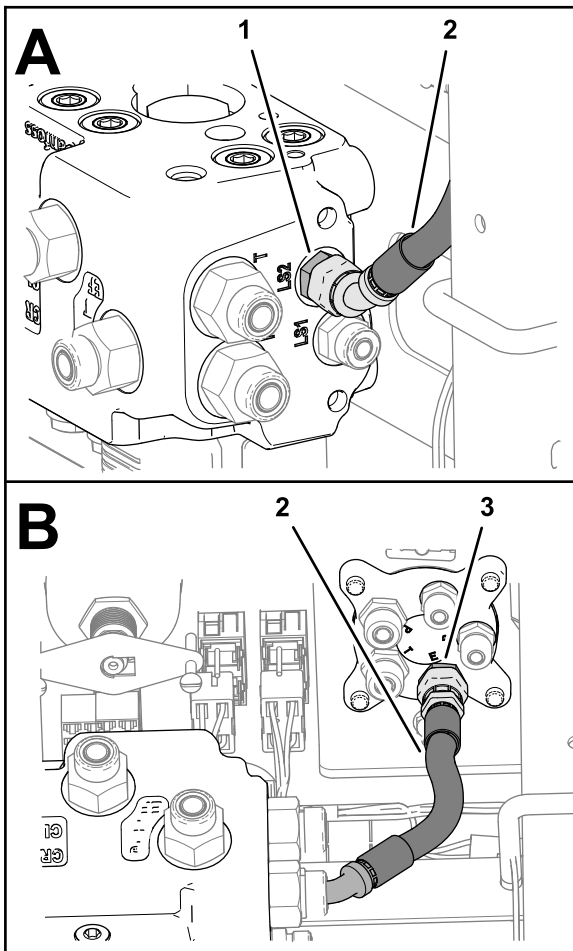

Figure 113
1. Assemble the 45° fitting of the hose 6 x 203 mm (1/4 x 8 inches) onto the port LS2 fitting of the EHI steering valve (Figure 113).
2. Assemble the straight fitting of the hose 6 x 203 mm (1/4 x 8 inches) onto the port E fitting of the steering valve, and tighten both hose fittings (Figure 113).